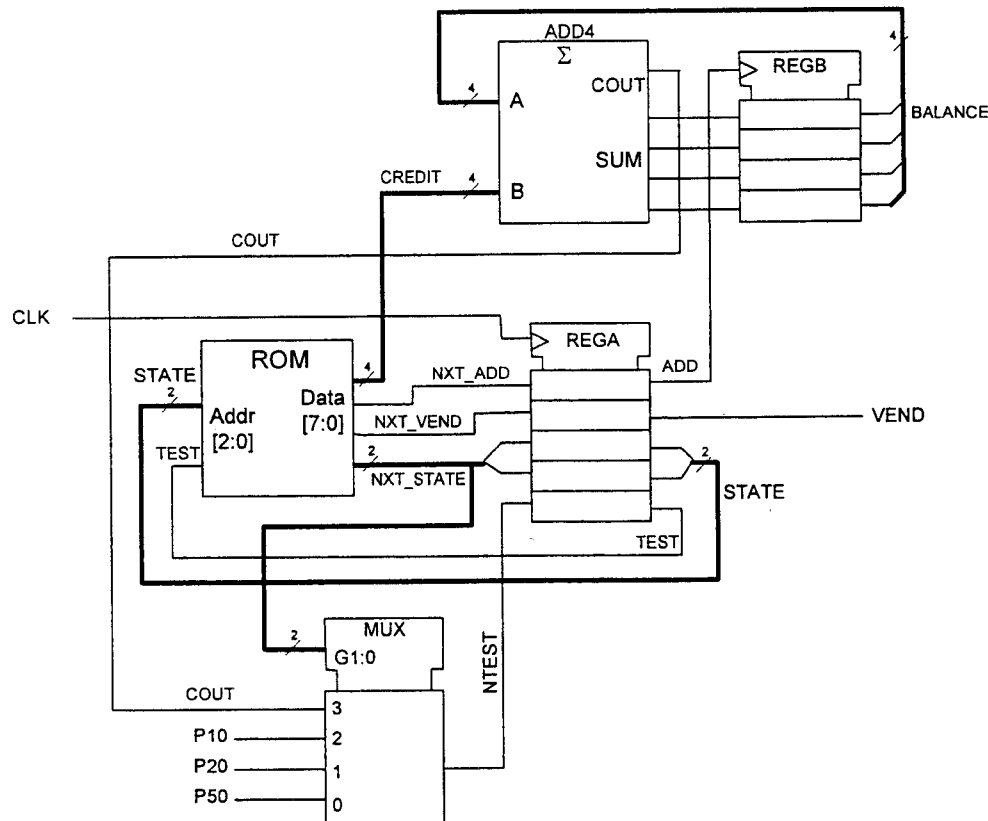

Figure 1.1
1. Figure 1.1 shows a controller circuit for a crisp vending machine. The machine accepts 50p, 20p and 10p coins and, if excess money has been inserted, will retain credit for the next purchase.